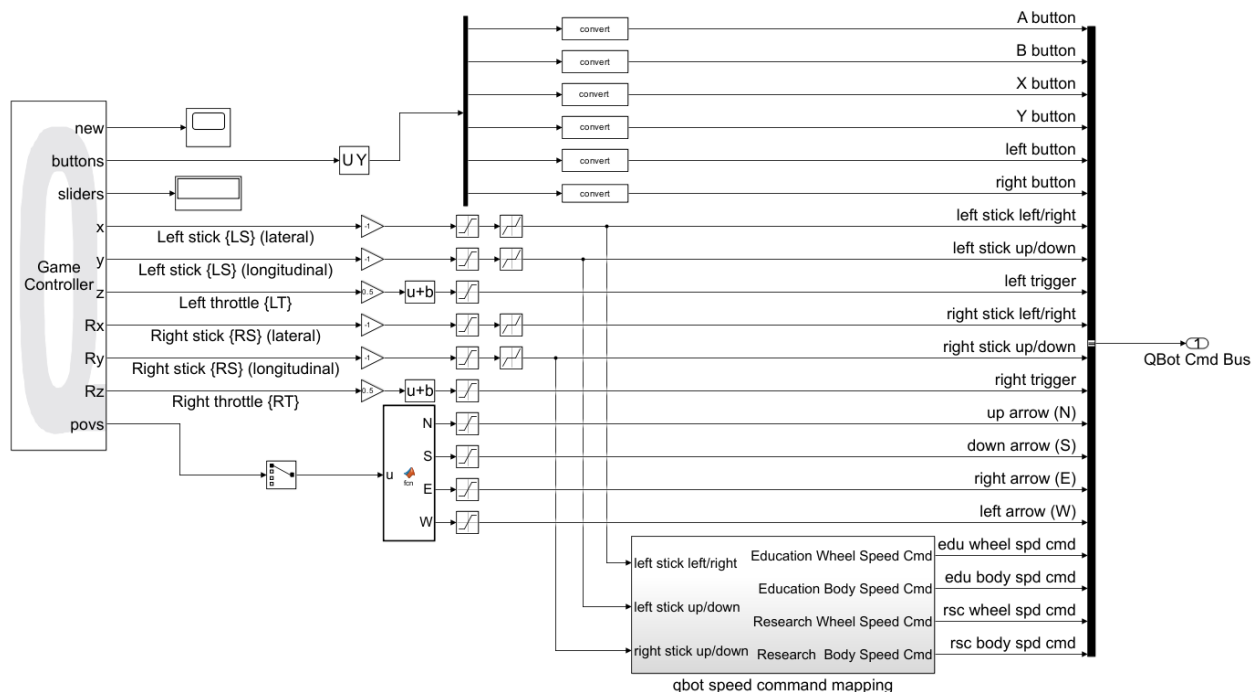

Figure 4. Joystick Driver Subsystem
- Double click on **Joystick Driver** block to open the subsystem as shown in Figure 4. This subsystem processes the raw data coming from the controller and creates a data bus to send to the QBot Hardware Subsystem. Notice that the data from the joysticks are mapped to QBot speed commands in this subsystem.